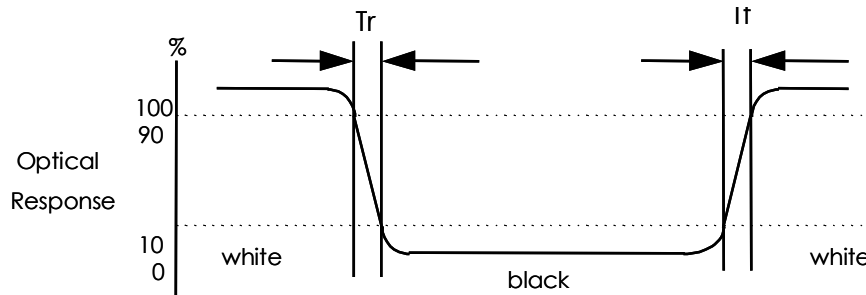

FIG. 2 Measuring method for Contrast ratio, surface luminance, Luminance uniformity , CIE (x, y) chromaticity
Note 1. Contrast Ratio(CR) is defined mathematically as For more information see FIG 2.:
Note 2. Surface luminance is the LCD surface from the surface with all pixels displaying white. For more information see FIG 2.
Note 3. The uniformity in surface luminance, δ WHITE is determined by measuring luminance at each test position 1 through 5, and then dividing the maximum luminance of 5 points luminance by minimum luminance of 5 points luminance. For more information see FIG 2.